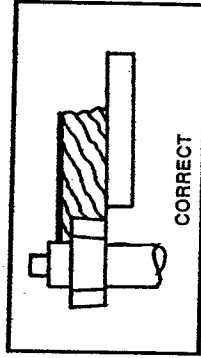
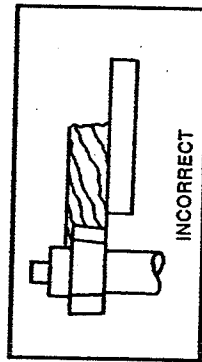

Fig. 1
Fig. 2
7. **WHEN SHAPING** with piloted bit, the pilot must have sufficient bearing surface ($\frac{1}{8}$ " minimum) as shown in Fig. 1. Fig. 2 illustrates the **INCORRECT** method for this operation as the pilot **DOES NOT** have sufficient bearing surface.